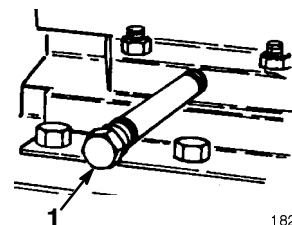

Figure 26
2. Clean the area around the oil drain plug (Fig. 26).
3. Slide the oil drain pan below the drain extension and remove oil drain plug (Fig. 26).